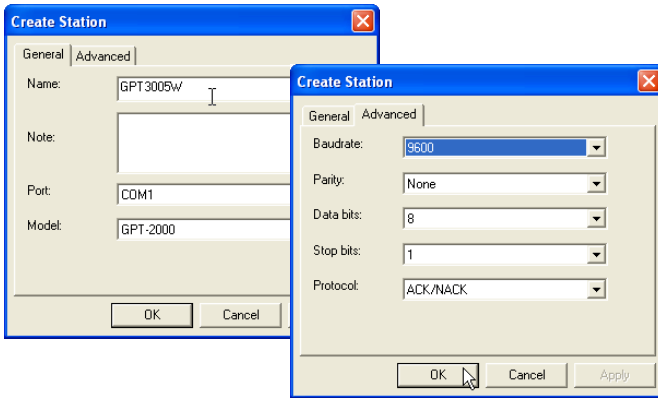

Figure 2-2. Enter Topcon Total Station Device Information
3. On the *General* tab, enter and select the following information (Figure 2-2 on page 2-5):
- On the *Advanced* tab, select the baud rate, parity, data bits, stop bits, and protocol used for communication with the Total Station (Figure 2-2). Refer to the Topcon Total Station operator's manual for details.
- On the *Advanced* tab, select the baud rate, parity, data bits, stop bits, and set checksum (*Set* or *Not Set*) and flow control (*None* or *Xon/Xoff*) used for communication with the Sokkia Total Station (Figure 2-2). Refer to the Sokkia Total Station’s documentation for details.
- On the *Advanced* tab, select the baud rate, parity, data bits, stop bits, and set checksum (*Set* or *Not Set*) and flow control (*None* or *Xon/Xoff*) used for communication with the Sokkia Total Station (Figure 2-2). Refer to the Sokkia Digital Level's documentation for details.